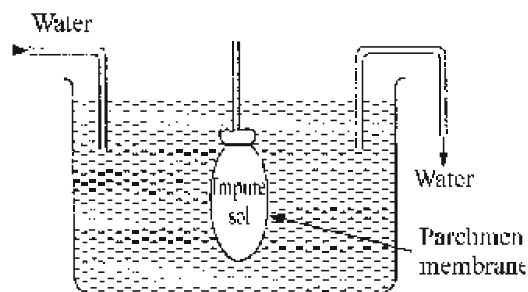

Fig. 5.12 : Dialysis process for removal of soluble impurities from sol
1. **Dialysis:** The process of separating the particles of colloids from those of crystalloids by means of diffusion through a suitable membrane is called dialysis. Its principle is based upon the fact that colloidal particles cannot pass through a parchment or cellophane membrane while the ions of the electrolyte can pass through it. The colloidal solution is taken in a bag made of cellophane or parchment. The bag is suspended in fresh water. The impurities slowly diffuse out of the bag leaving behind pure colloidal solution. The distilled water is changed frequently to avoid accumulation of the crystalloids otherwise they may start diffusing back into the bag, Dialysis can be used for removing HCl from the ferric hydroxide sol. The method is shown in Fig. 5.12.